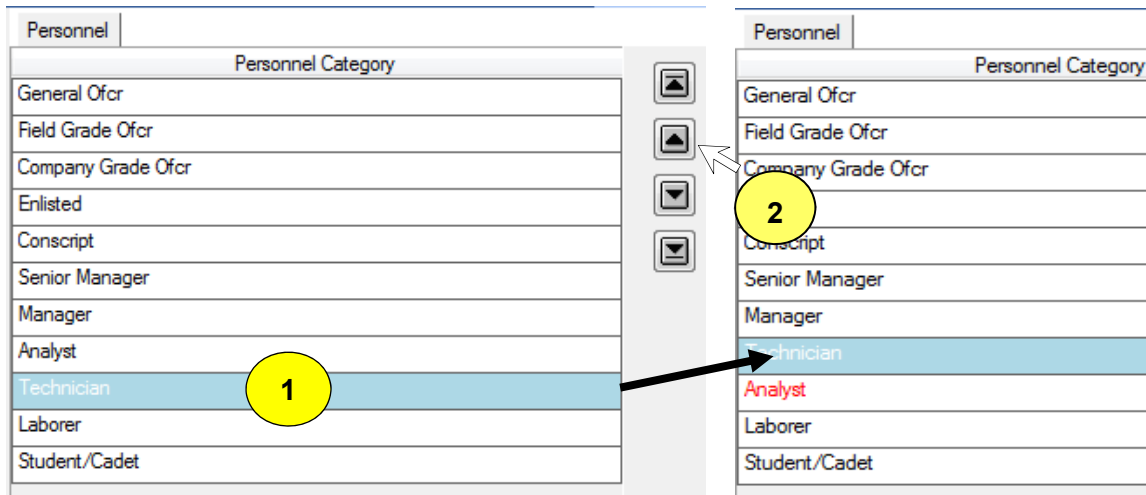

Figure 2-27. Example of Reordering the Personnel Category List
In Figure 2-27, a user has clicked on the Personnel Category “Technician” ① and then clicked the up arrow ②, which caused the “Technician” entry to move up one position.